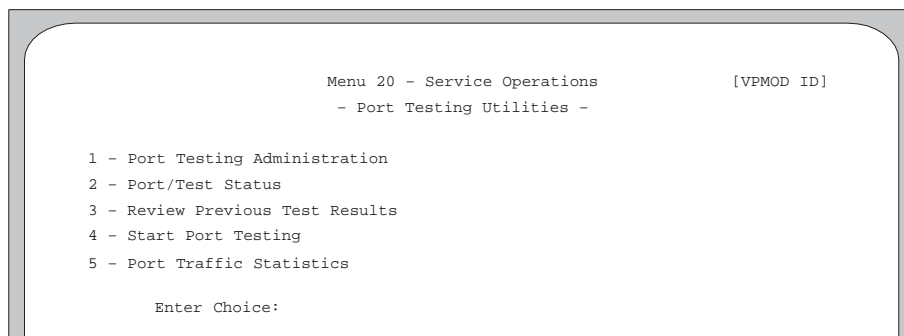

Figure 10-4. Port Testing Utilities Menu.
1. From the SMT Main Menu, access Menu 20 – Service Operations, then the Port Testing Utilities menu, shown in Figure 10-4.
To establish the port-testing-administration parameters, select option **1 – Port Testing Administration** from the Port Testing Utilities menu (Figure 10-4), and press **Enter**. The Port Testing Administration screen appears, as shown in Figure 10-5.
To view the status of server ports or the status of a test in process, select option **2 – Port/Test Status** from the Port Testing Utilities menu (Figure 10-4), and press **Enter**. The port-testing status displayed depends on whether a test is in process, as described in the following two sections.
If the port status is being displayed when a scheduled test begins, the screen automatically changes to display the test status (refer to the following section). When the test is complete, the screen returns to displaying the port status, if no changes were made (no keys were pressed) while the test status was displayed on the screen during the test. If changes were made, the server returns to the Port Testing Utilities menu (Figure 10-4) when testing is complete.